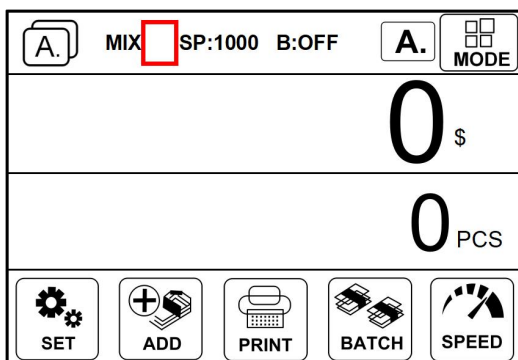

Figure 21
1) There is no sign “+” between “MIX” and “SP:” at the top of the display, indicating that the accumulation function is off at this time. as shown in the following Figure 21.